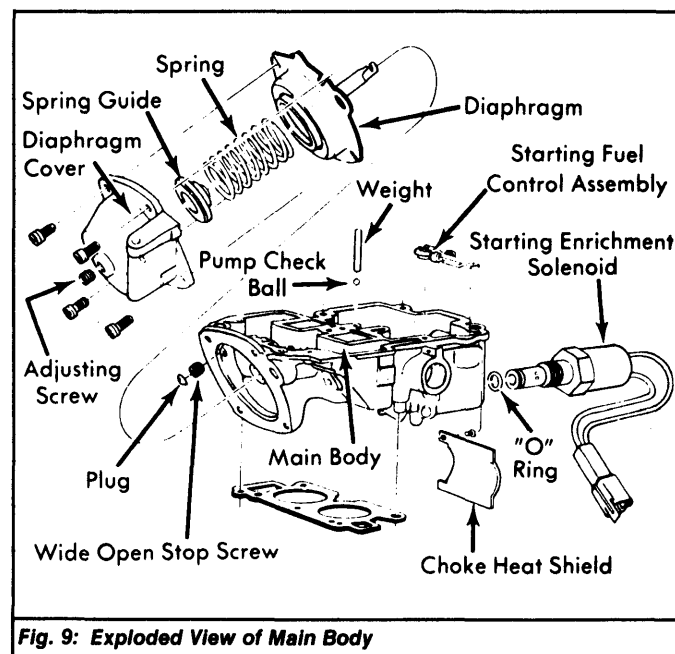

Fig. 9: Exploded View of Main Body
- 9) From main body, remove starting enrichment solenoid and "O" ring seal. Remove valve diaphragm cover assembly, spring guide and spring. Loosen diaphragm and slide from main body. Remove diaphragm adjusting screw and valve wide open throttle stop screw. See Fig. 9.